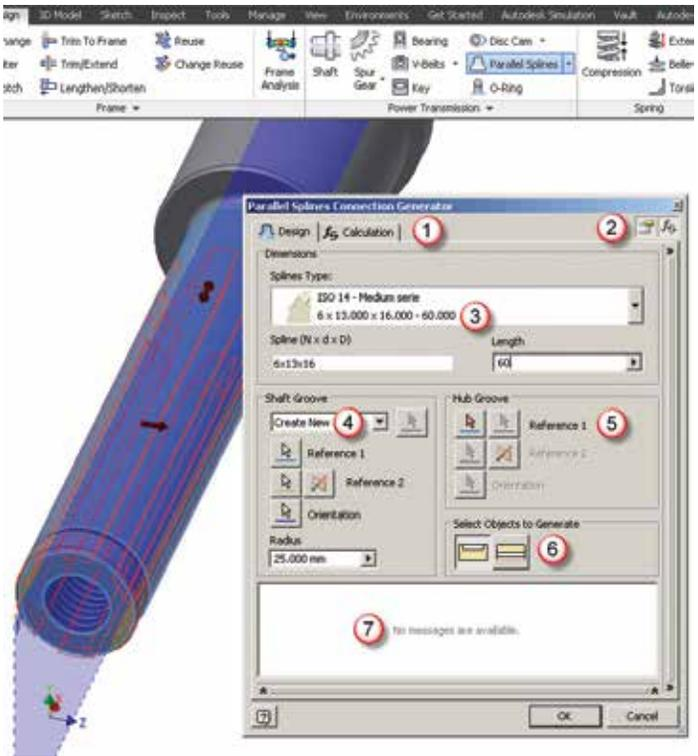

Figure 10: Parallel Splines Connection Generator.
Starting the tool opens the Parallel Spline Connection Generator, a dialog box with the following features (see Figure 10):
Tip: New users are often frustrated that the generator will not continue after the respective settings are added. Make sure you check the Shaft/Hub feature creation option (see item 6 on Figure 10). This is set to both shaft and hub by default. If you are only creating a shaft spline, Inventor will still be waiting for the hub. Check the hub option off and Inventor will create the feature.